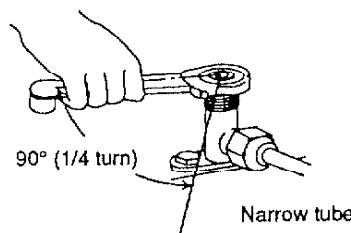
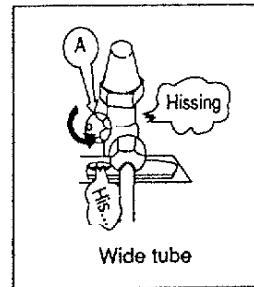

Fig. 14
Fig. 15
- Loosen the flare nut A of the wide tube by 180 degrees (1/2 turn). (Fig. 15)
- Open the narrow tube service valve stem by 90 degrees (1/4 turn) for **15 seconds** (or **30 seconds**) and close it to the original position (Fig. 14.). Even after the stem is closed, the air continues to escape out of the charge port of the wide tube service valve. (Fig. 15)